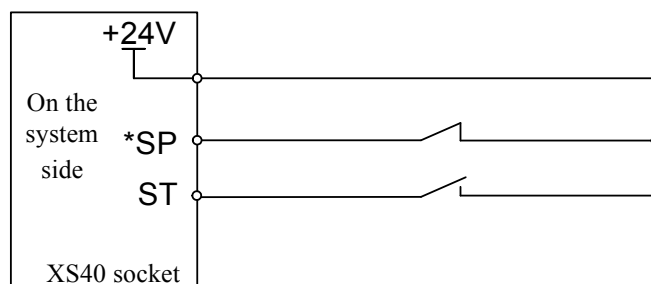

Figure 4-11-2
* See Figure 4-11-2 below for the external circuit for the SP/ST signal.